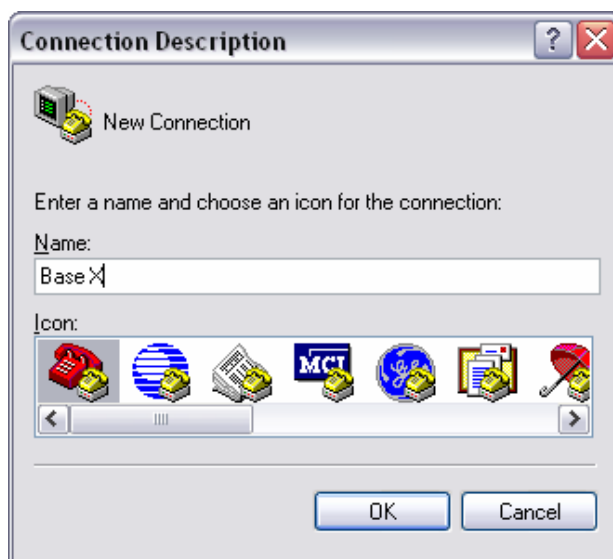

Figure 6: New Connection
4. Run Windows HyperTerminal (typically located in Start, Programs, Accessories, Communications of the windows desktop). The following window appears (**Figure 6** below):